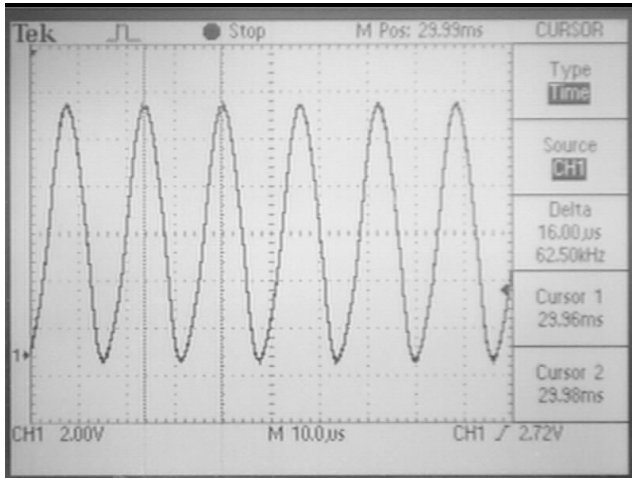

Figure 3
6. Loop Oscillator signal. The signal at the zener surge absorber D9 (Ch.1) and D11 (Ch.2) should be a sine wave of approximately 8 to 12 Volts pk-pk as shown in Figure 3.